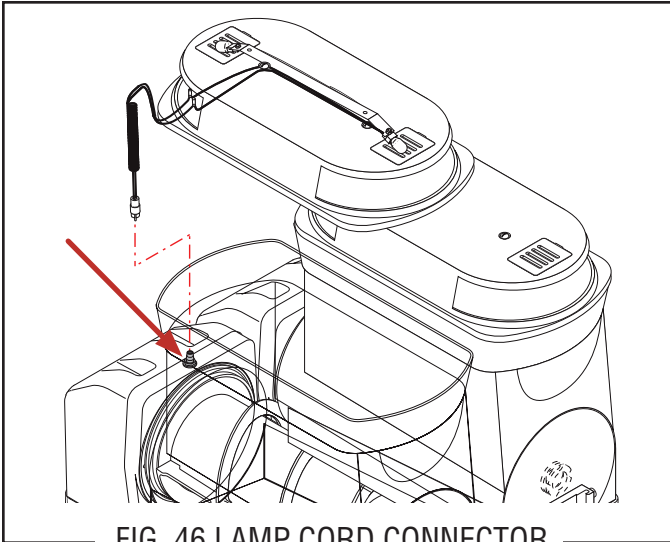

FIG. 46 LAMP CORD CONNECTOR
**NOTE:** Lamp cord assembly (Fig. 46) and lamps, must be tested and determined to be functioning properly before proceeding to step 5.